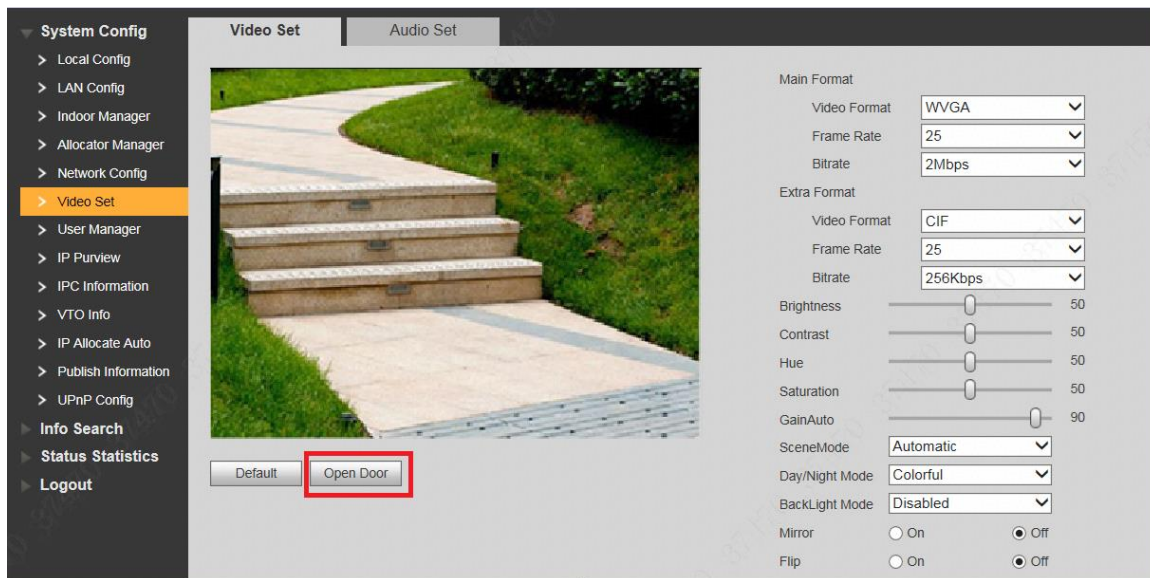

Figure 6-4
Step 2 Click "Open Door", and VTO is unlocked, as shown in Figure 6-4.